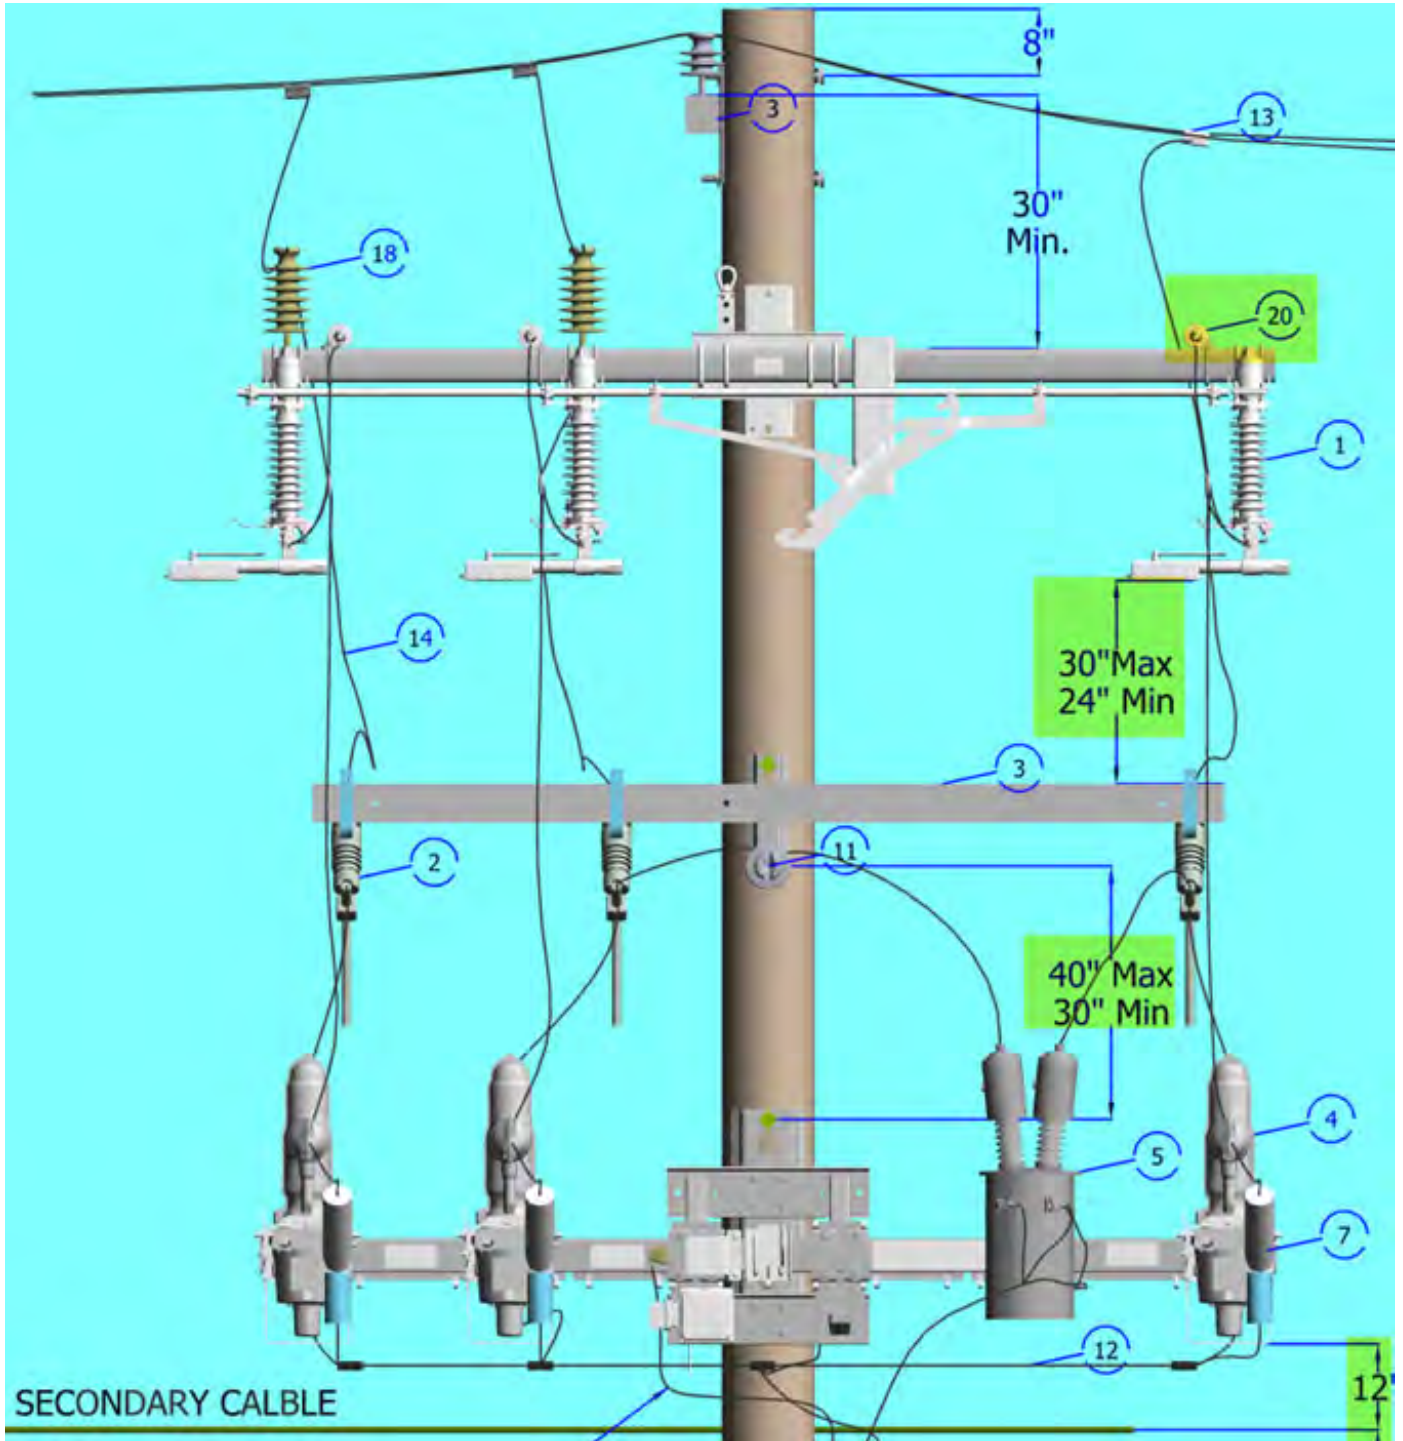

Figure 17
9. Updated Figure 17 on Page 27.